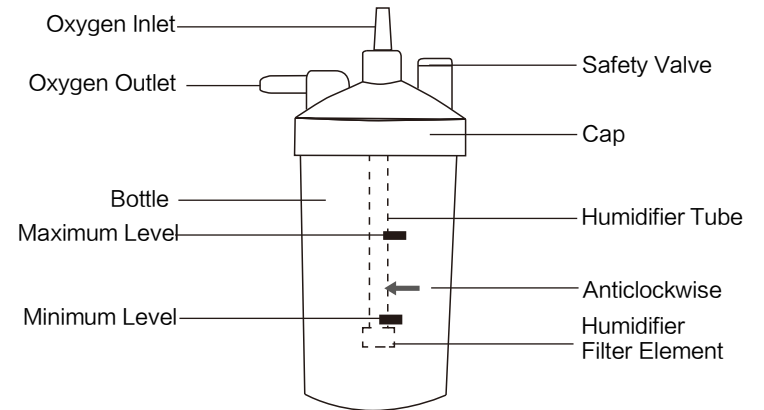

Figure 5: Humidifier Schematic Diagram
- Take out the humidifier and remove the humidifier cap, then add pure water(or distilled water) until the water line is between the MAXIMUM Level and the MINIMUM Level (figure 5).